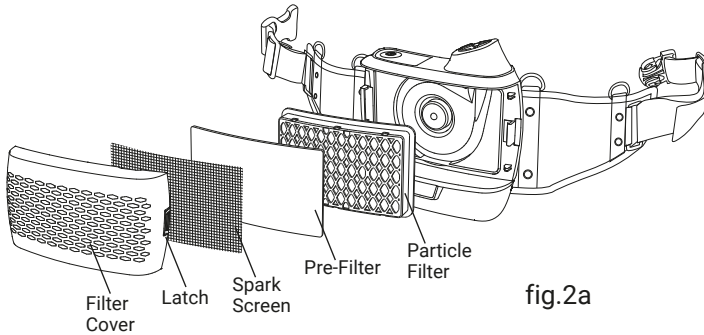

fig.2a
- Please install the particle filter according to fig. 2a.